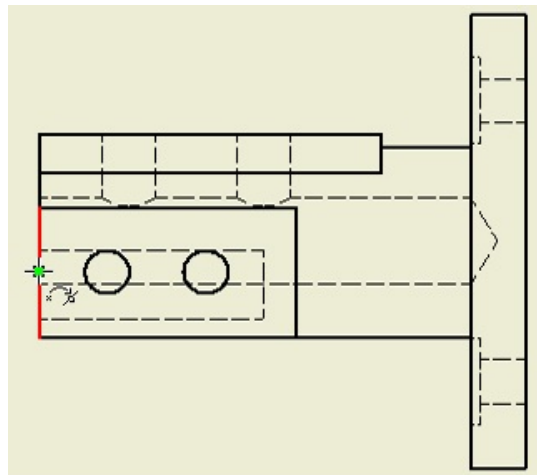

Figure 11-48 Cursor snapping at the midpoint of the left vertical edge
2. Move the cursor close to the midpoint of the extreme left vertical edge of the base view; the cursor snaps at the midpoint and turns green, refer to Figure 11-48.